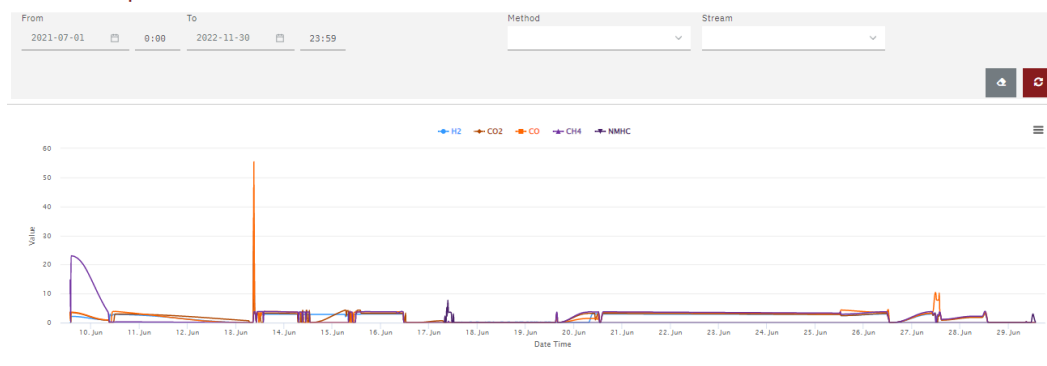

Figure 63: Peak graph
- 1- This button allows you to see the peak graph and the sensor graph. As shown in Figure 63, the peak graph is a trending of the impurities' concentration. The sensor graph is trending like the peak graph, but it allows you to see the raw signal of the sensor over time. This feature can be useful for diagnostic and troubleshooting.